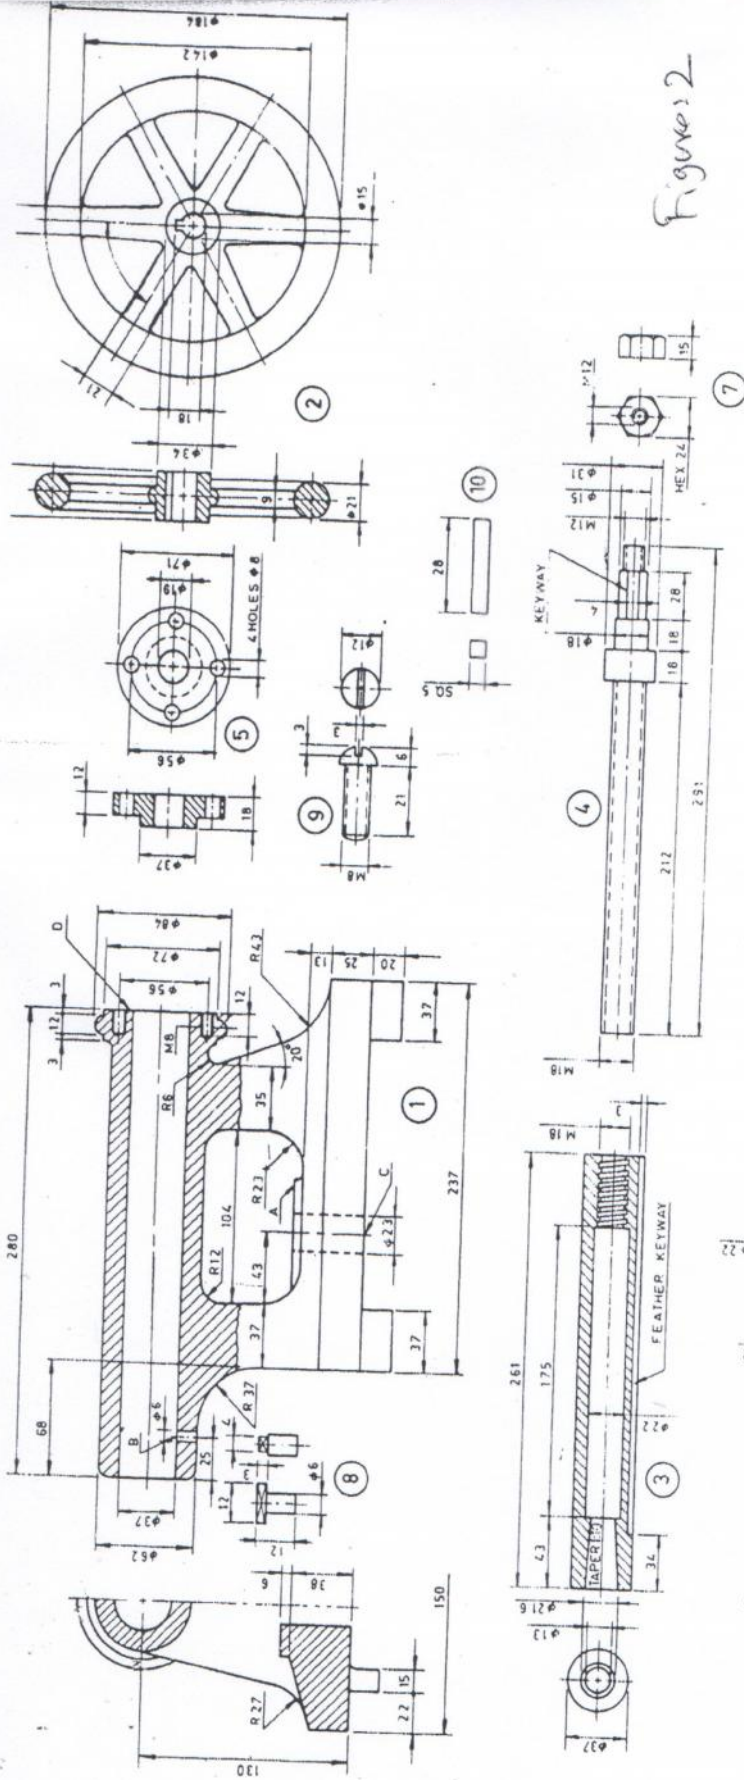

Figure 2
- 6 Assemble all parts of the lathe tail stock as shown in Figure 2 and draw